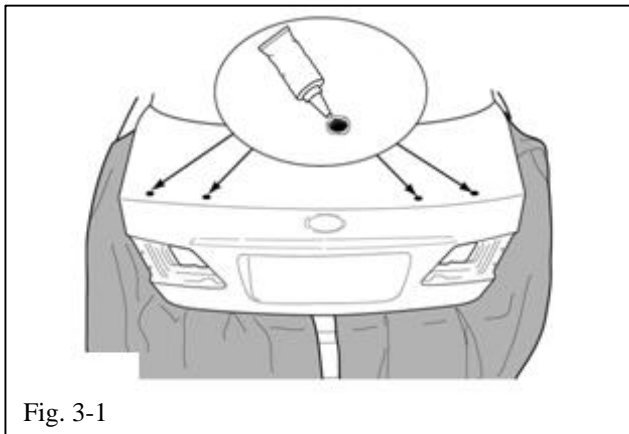

Fig. 3-1
- (b) After cleaning, carefully apply 3M Ultra-Pro Body Sealant to all drilled hole edges (Fig. 3-1).